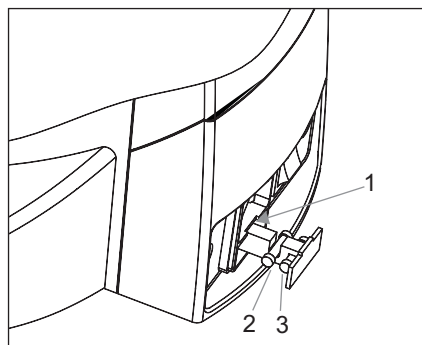

Fig. 19
1. Flip the main switch to "I" (ON) as shown in Figure 19.